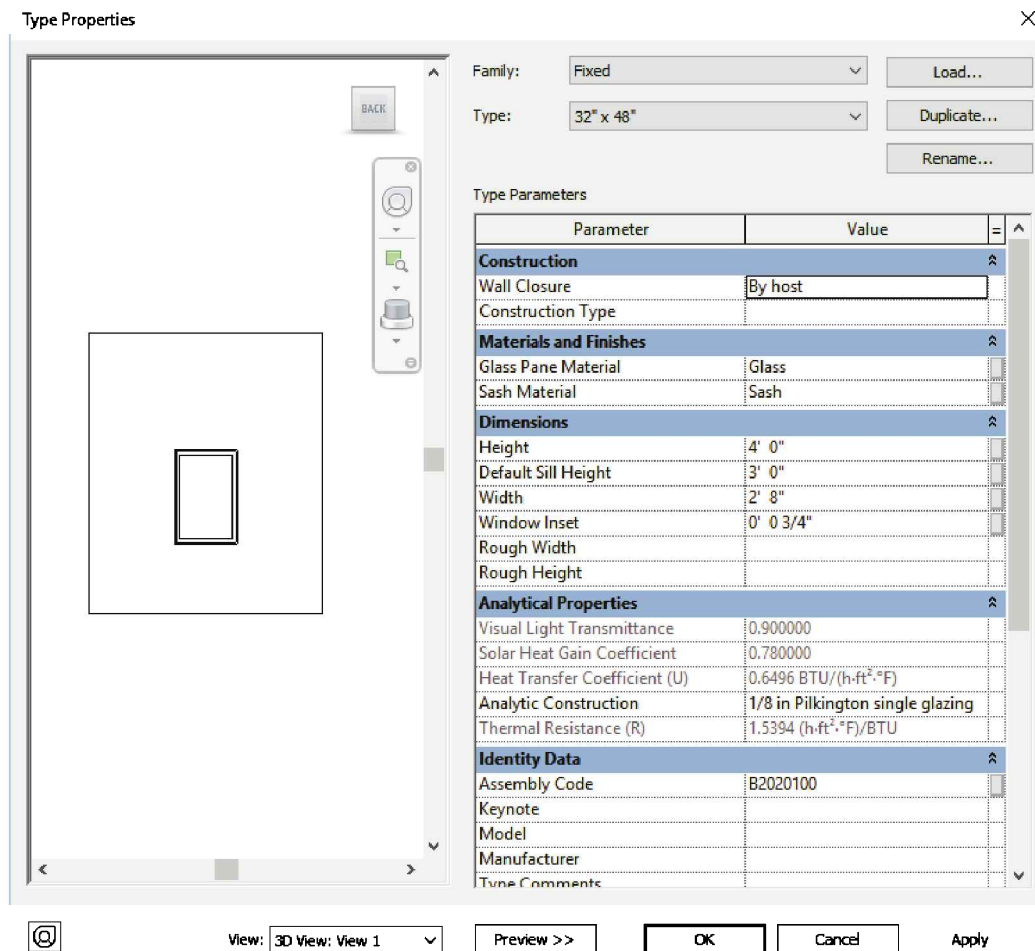

FIGURE 3-5.8 New window size with modified window sill height
15. Adjust the sill height for your new window size to fit within coursing as well. Set the sill height for *Fixed: 32" x 48"* to be *3'-4"* (Figure 3-5.8).